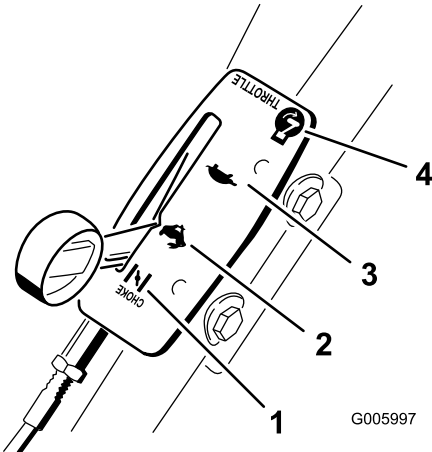

Figure 18
The throttle settings are shown in (Figure 18).
3. Move the choke/throttle lever to the Choke position (Figure 18).
5. Move the choke/throttle lever to the Fast position (Figure 18).